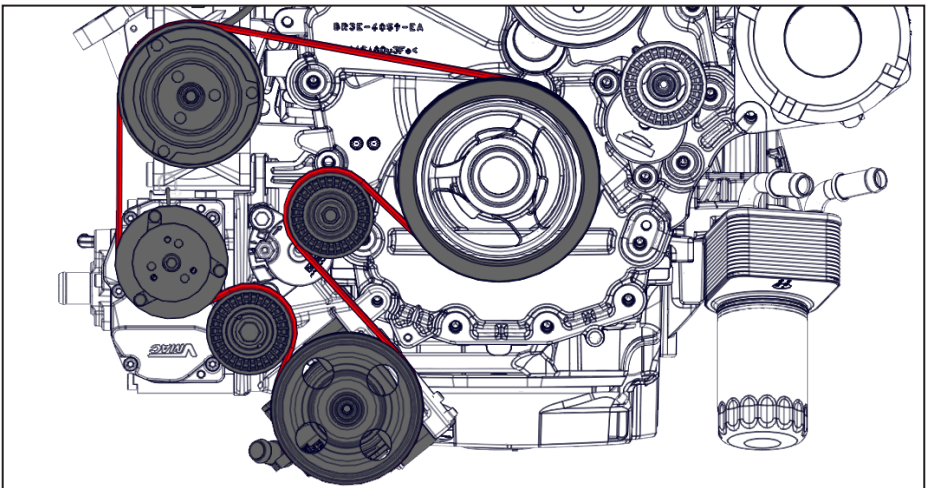

Figure 28 — VMAC belt routing
- Install the supplied 4 rib VMAC Compressor belt so that it is centered on the compressor clutch, and tension the belt (Figure 28).